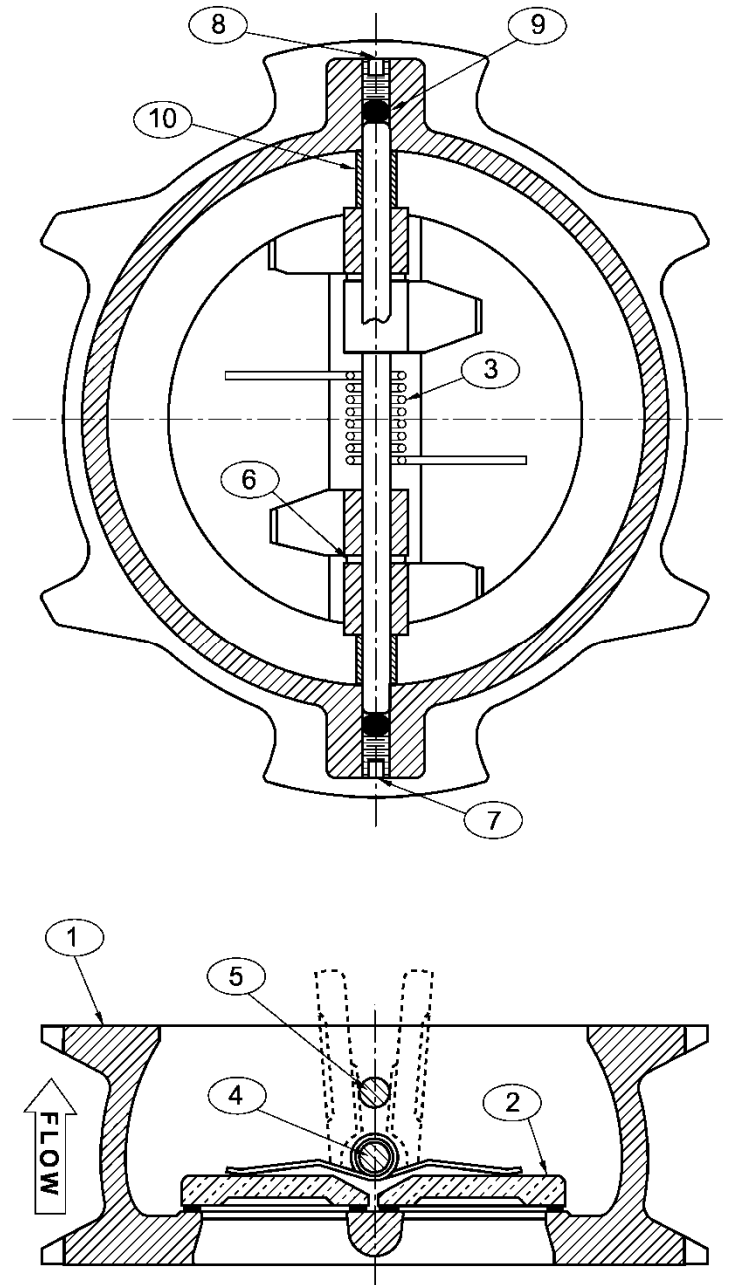

FIGURE 3. DUAL DISC® CHECK VALVE COMPONENTS
The standard check valve body (1) is constructed of ductile iron. The discs (2) are bronze and the remaining metal components are type 316 stainless steel. The discs and torsion spring (3) are the only moving parts and require no maintenance or lubrication. The general details of construction are illustrated in Figure 3 and identified in Table 2.
The valve should be removed from the pipeline for disassembly. All work on the valve should be performed by a skilled mechanic with proper tools. Refer to Figure 3.